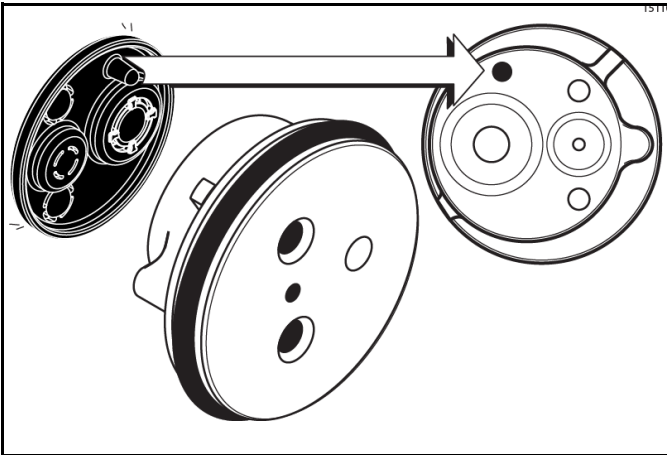

Figure 6-33
6. Slide the pump valve gasket into the holes on the cap. **Do not** lubricate the gasket. (See Figure 6-33.)